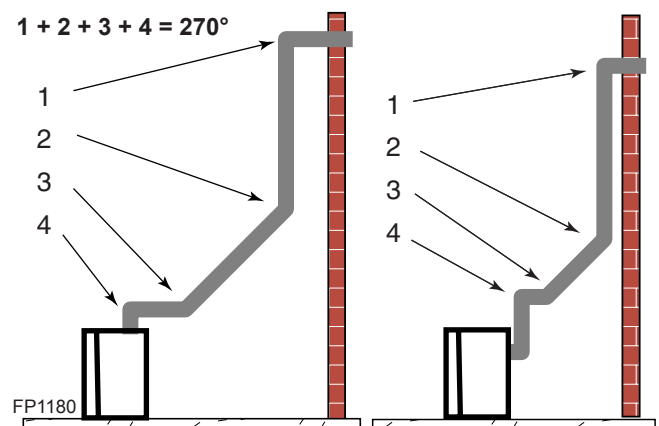

Figure 25 -
- The maximum number of 45° elbows permitted per installation is six (6). These elbows can be installed in either the vertical or horizontal run.
- The maximum number of elbow degrees in a system is 270°. *Figure 25*